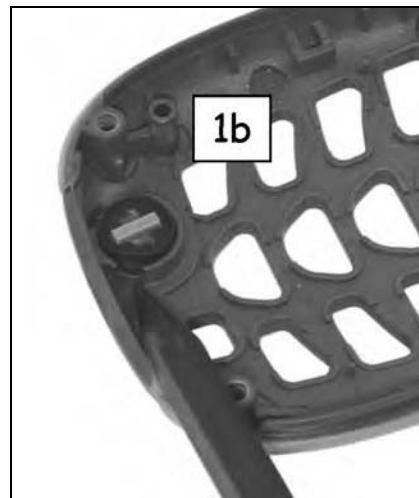

Figure 7-10.
1. Insert pointed tip of black stick on microphone seal at relief notch in housing. See Figure 7-10.